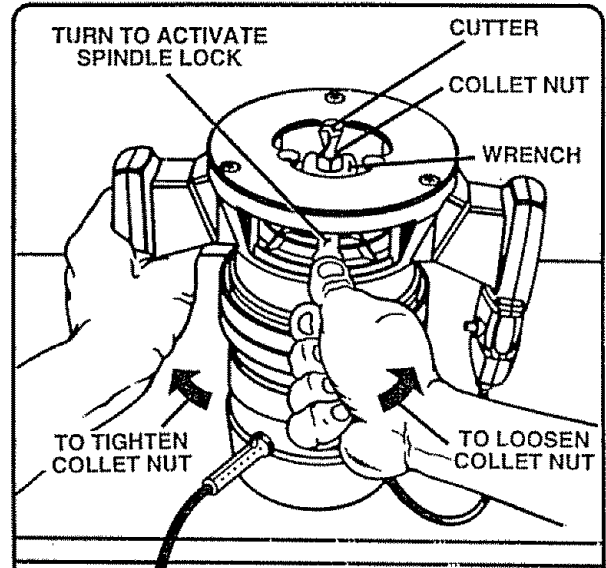

Fig. 2
See Figure 2.
3. Place your router upside down on table, then turn collet nut with wrench until lock mechanism interlocks. See Figure 2. NOTE: Spindle lock is spring loaded and will snap into position when lock mechanism interlocks.
4. Remove cutters by turning collet nut counterclockwise enough to allow cutter to slip easily from collet. See Figure 2. The collet is machined to precision tolerances to fit cutters with 1/4" diameter shank size.
6. Tighten the collet nut securely by turning clockwise with the wrench provided. See Figure 2. Put spindle lock back in unlock position. Otherwise, the interlocking mechanism of the spindle lock will not let you turn your router on.